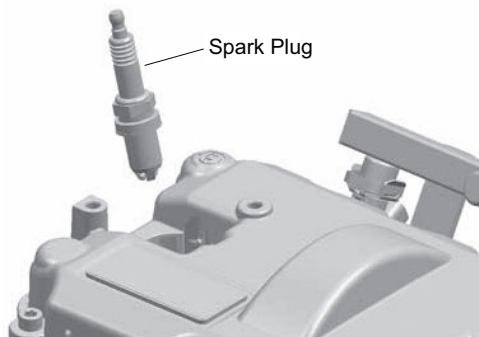

Fig. 13 Spark Plug
- Remove the spark plugs with a spark plug socket (Ref. Fig. 13).